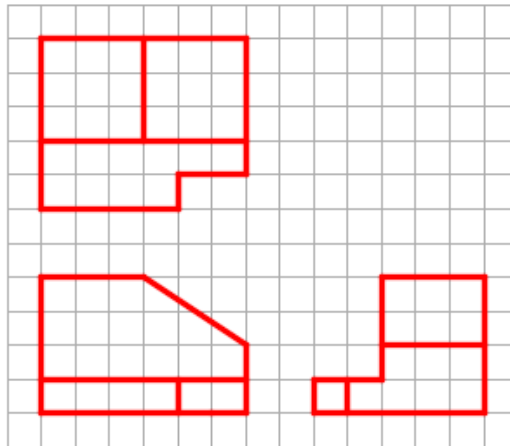

Figure Step 7A
Step 7 Figure Step 7A shows the multiview drawing of Object 7-1. Set layer: Object as the current layer and draw a box 6 grids long, 5 grids wide and 4 grids high. Where it is drawn is not that important but it should be located somewhere in the top left corner. Ensure that all lines are snapped to the grid intersections. Since layer: Grid is locked, the lines can be freely moved on layer: Object, as required. (Figure Step 7A, 7B, and 7C)